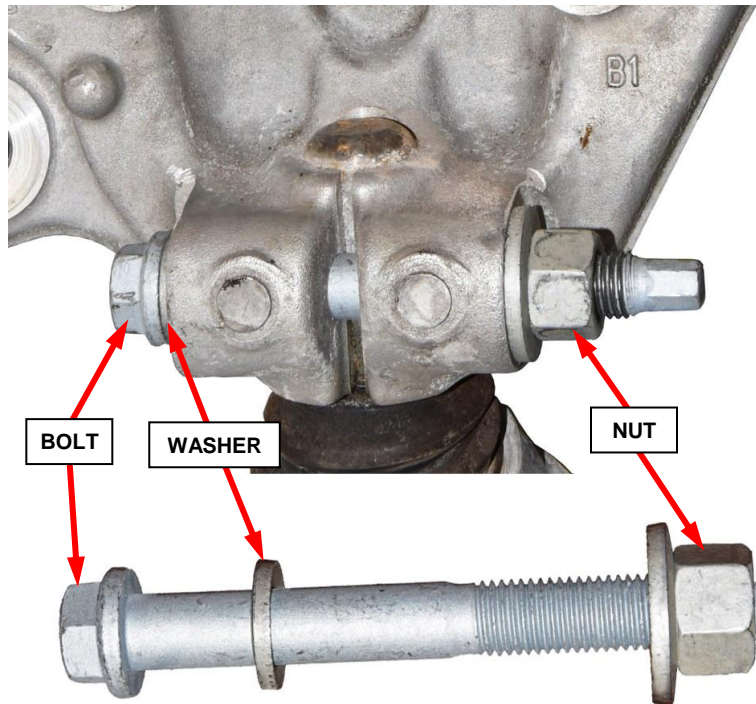

Figure 2 – NEW Pinch Bolt, Washer and Nut Installation into Steering Knuckle
7. Install the NEW ball joint stud pinch bolt, washer, and nut as shown in (Figure 2).